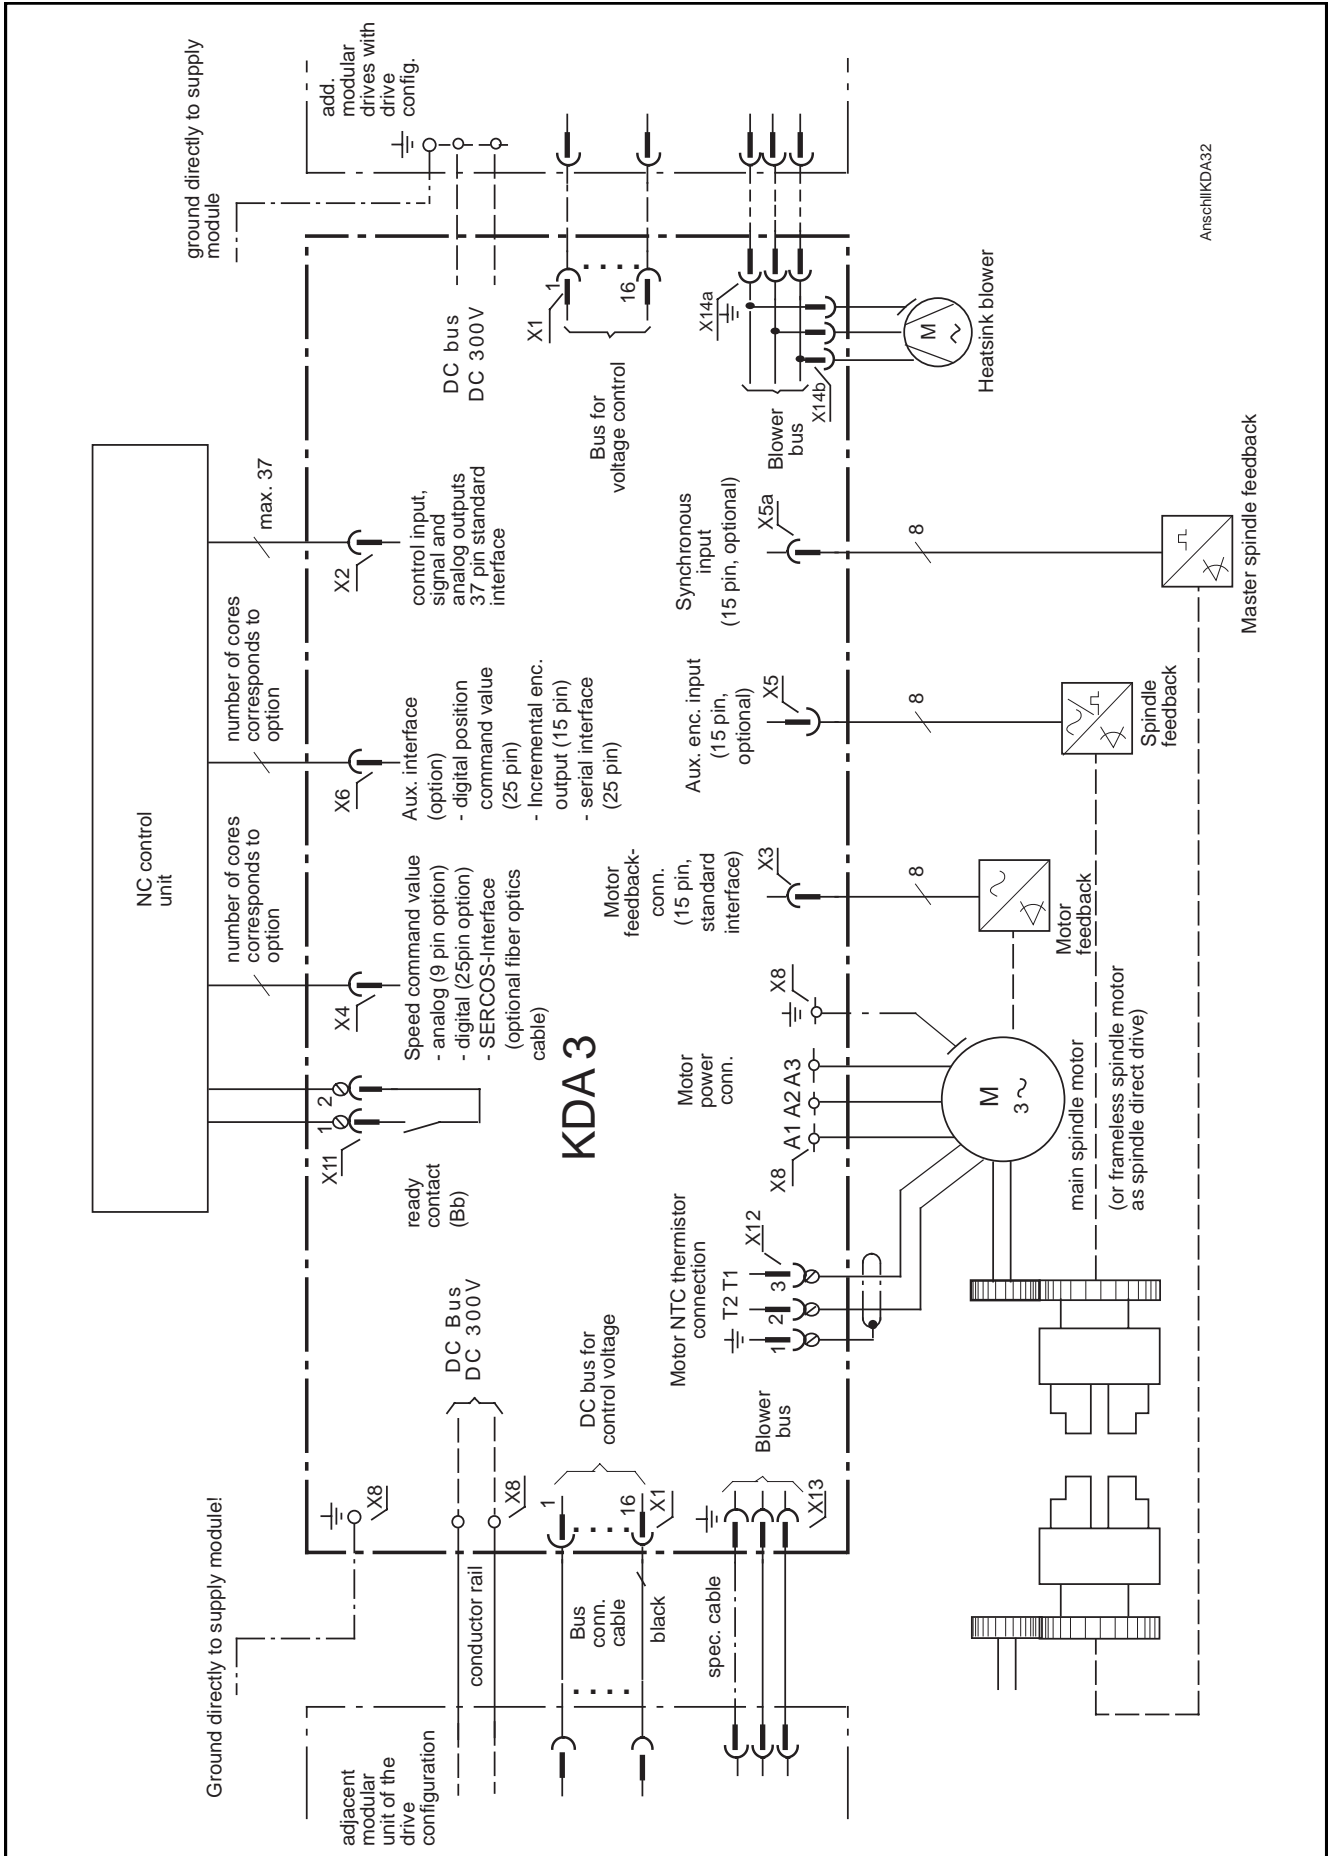

Fig 2.9 Terminal-Diagram KDA 3
Figure 2.9 depicts the circuit diagram of the drive configuration's internal electrical connections!
*Power connections* Terminal designations and assignments of the power connections on the drive are outlined in the connecting diagram in Figure 2.9. They are also outlined in the circuit diagrams of the power connections in the document entitled, "Electrical connections of the main spindle drive", doc. no. 209-0042-4111!